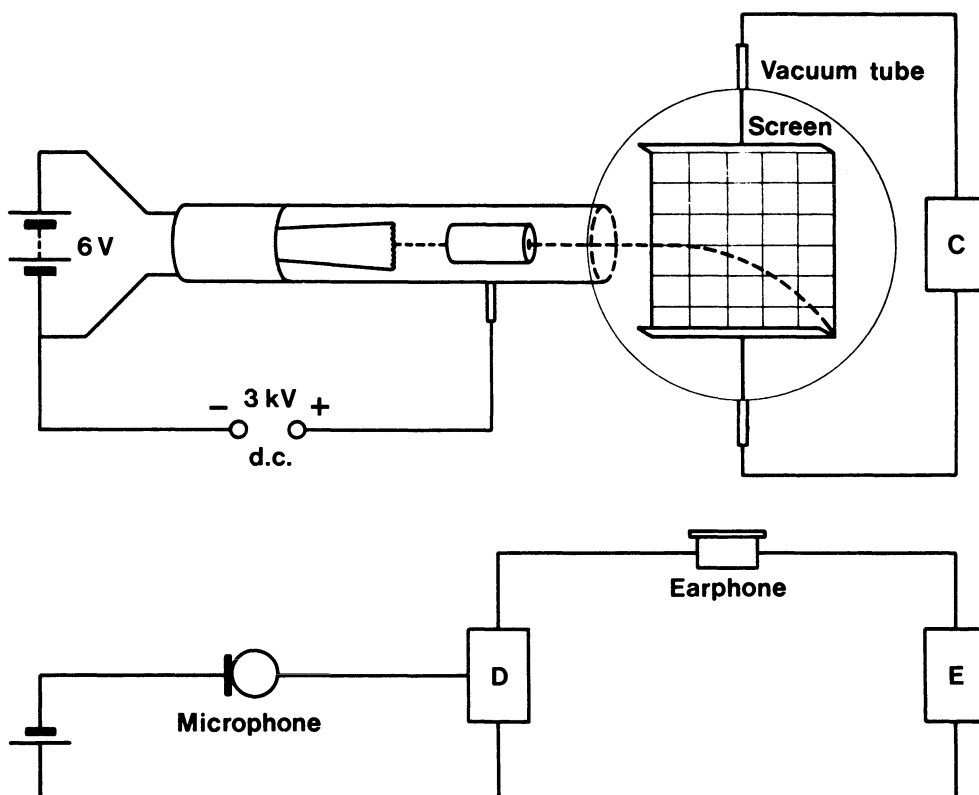

FIG. 3.69 (continued)
52. Fig. 3.69 shows experiments in which important components have been omitted, and are indicated by capital letters. State what each of the items A, B, C, D and E is, and briefly describe its purpose in its circuit.